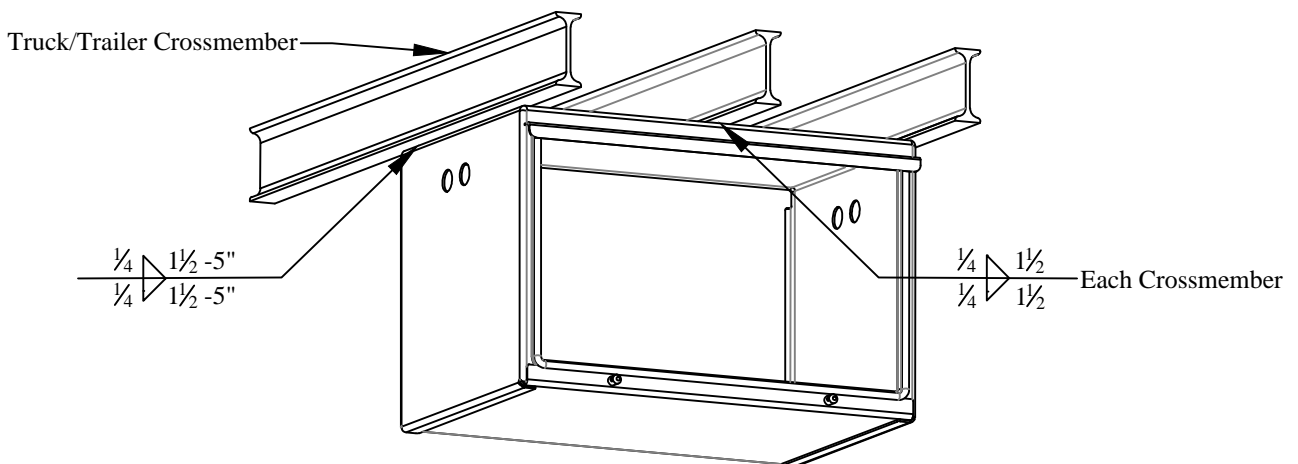

Figure 3: Weld locations.
7. **Position** the auxiliary battery box underneath the truck/trailer using a forklift or other lifting device. Both sides of the auxiliary battery box need to align with a truck/trailer's crossmember to provide adequate support (Figure 3).
8. **Weld** the front and back of the auxiliary battery box to the bottom of the truck/trailer's crossmembers using 1/4" fillet welds along the full width of all adjoining crossmembers. **Stitch weld** both sides of the auxiliary battery box to the crossmembers using 1/4" fillet welds, 1-1/2" long, every 5" (Figure 3).